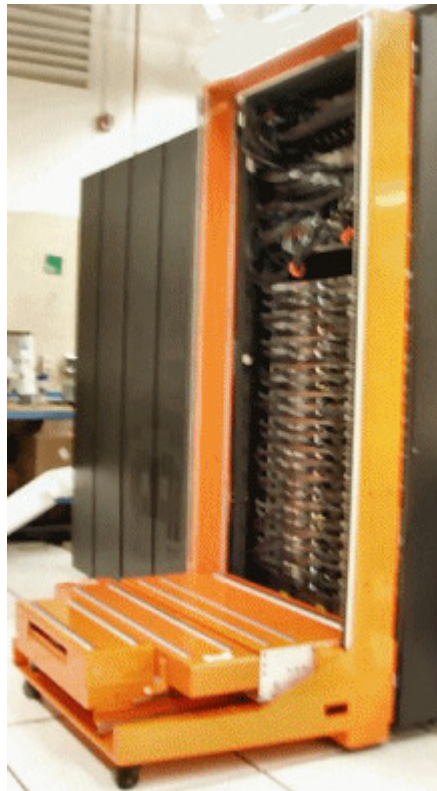

Figure 12 Position Lift Tool at front side of rack
STEP 18 Position the Lift Tool to the front side of the rack as shown in Figure 12.